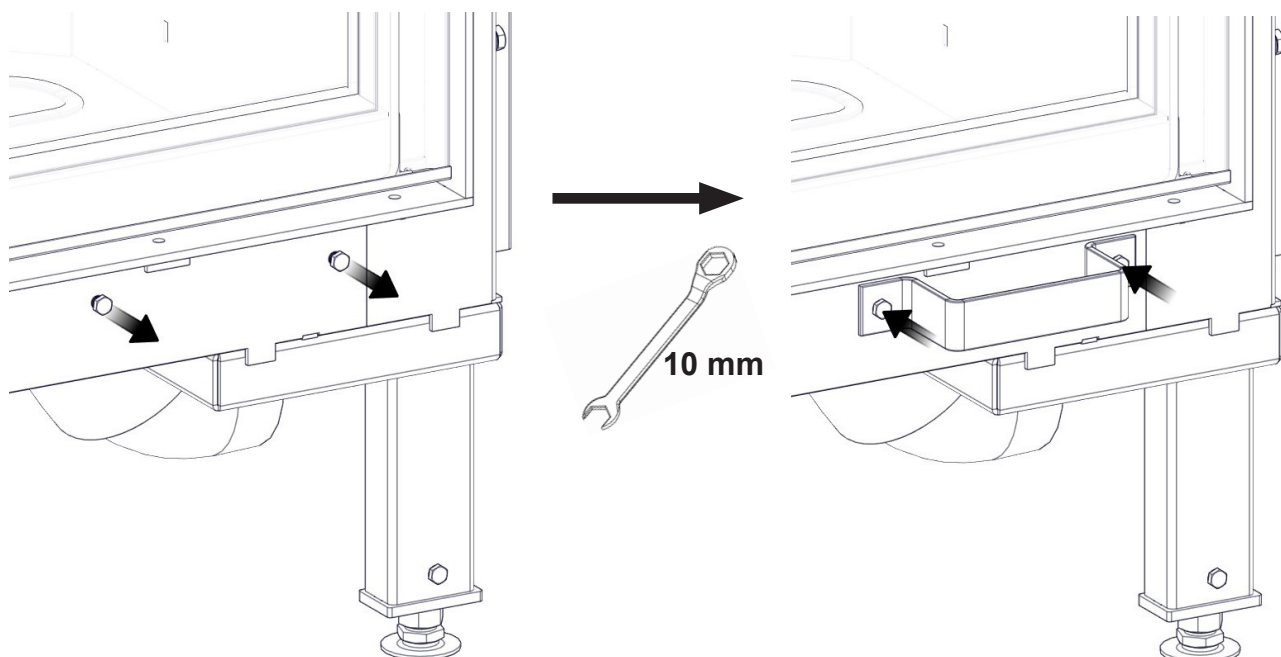

FIG 6
FIG 6 a
**FIG 6 b** Davos U High\_N-29U
**FIG 6 c** Davos U High\_N-29U
FIG 6 d Davos U High\_N-29U
FIG 6 e Davos U High\_N-29U